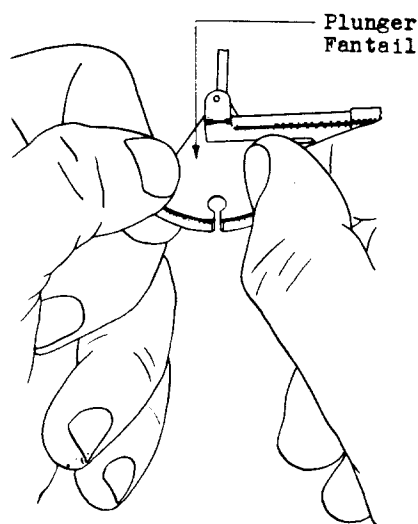

Fig. 18 — Adjusting Plunger Fantail
(4) If the plunger fantail does not re-engage the plunger guide shaft as specified, loosen the switch mounting screws and shift the position of the switch as described in (3). If this does not correct the trouble, grasp the plunger fantail as shown in Fig. 18 and then press downward in the center and upward at the ends. This will increase the slot opening.